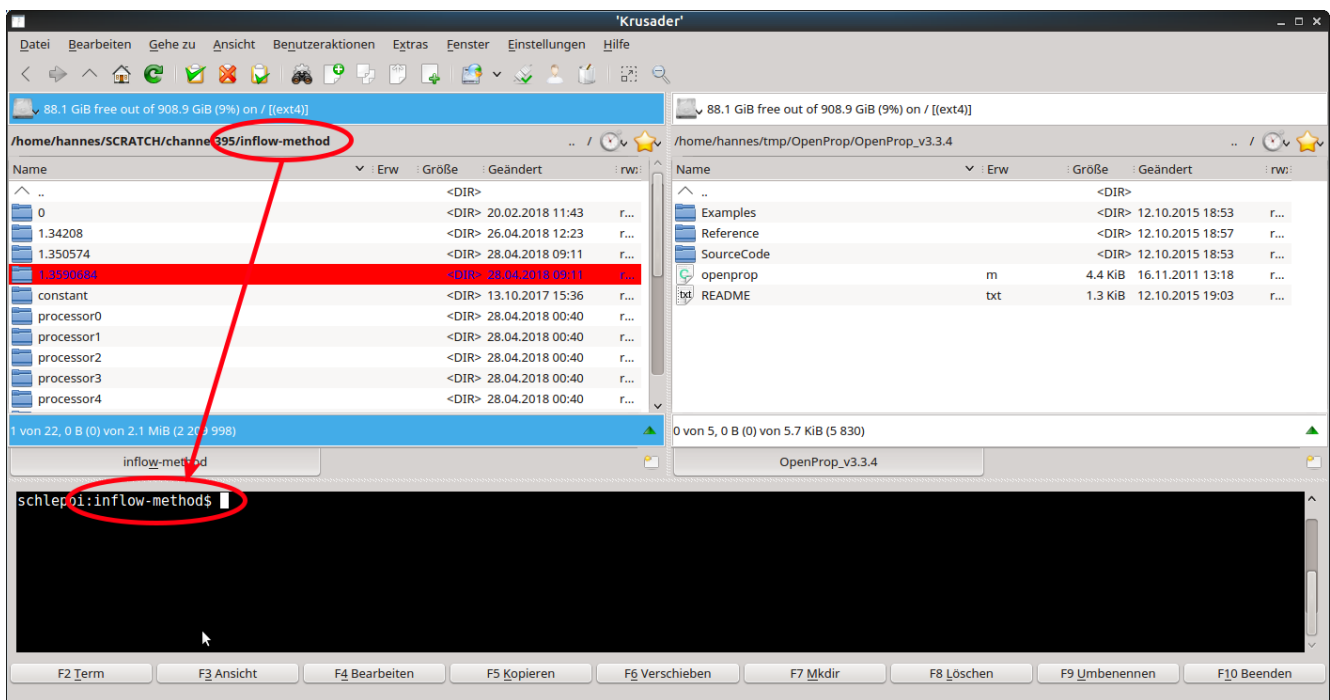

Figure 2: Krusader file manager with embedded terminal
2. There is a Norton-Commander-like file manager named **krusader** (figure 2). It offers the same functionality regarding the embedded terminal but a more flexible way of displaying multiple folders. In addition to the two list view on the left and right, multiple tabs for folders can be added in each list view. And there is also a rich interface to define custom commands and file associations.